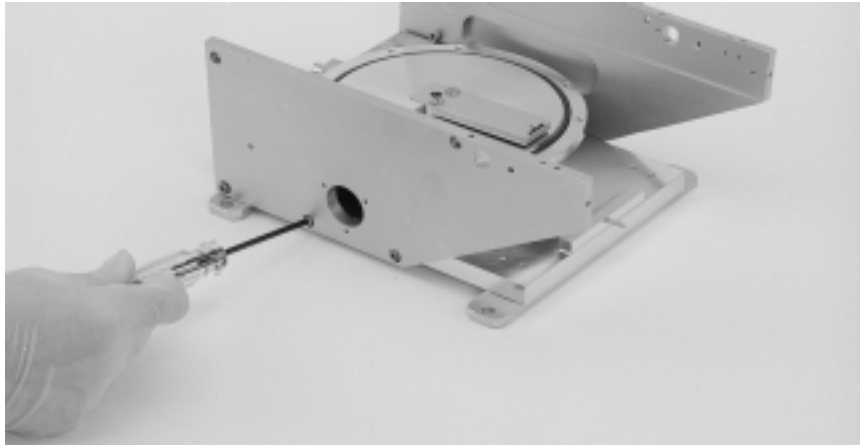

Figure 5-17. Removing the screws that secure the LH pole piece to the base plate
Step 17: Remove the screws that secure the pole pieces to the base plate (see Figure 5-17).